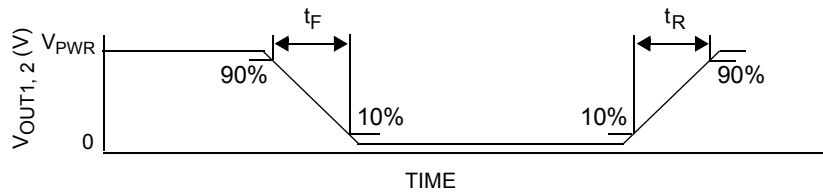

Figure 6. Output Switching Time
27. Rise Time is from the 10% to the 90% level and Fall Time is from the 90% to the 10% level of the output signal with  $V_{\text{PWR}} = 14\text{ V}$ ,  $R_{\text{LOAD}} = 3.0\text{ ohm}$ . See Figure 6, page 9.